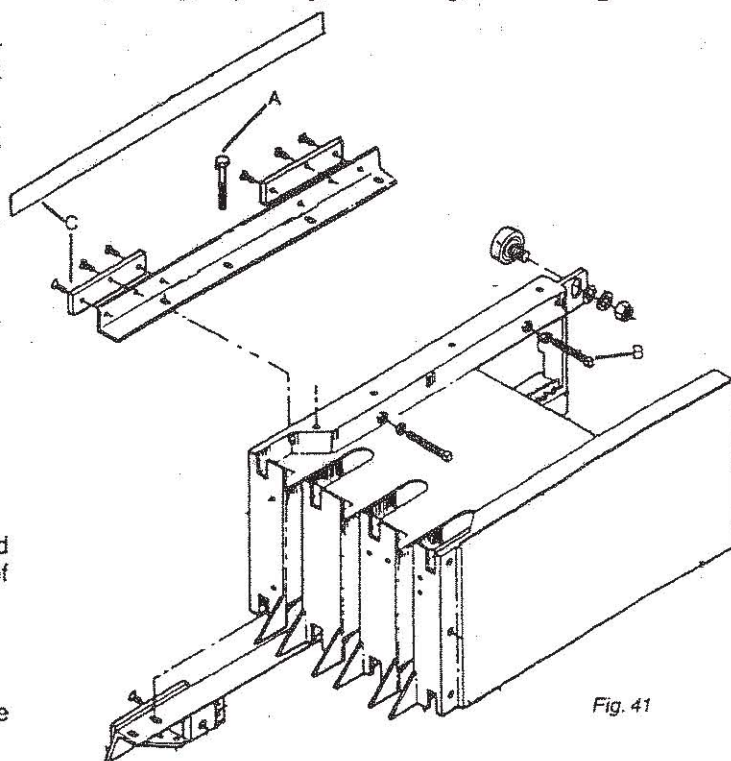

Fig. 41
- Loosen the eight hold-down bolts "A," Fig. 41.
c. Adjust the four set screws, "B," Fig. 41 (two top and two bottom), until there is $\frac{1}{32}$ " (the width of a thin knife shim) between the hard slides and the slide rails, "C."